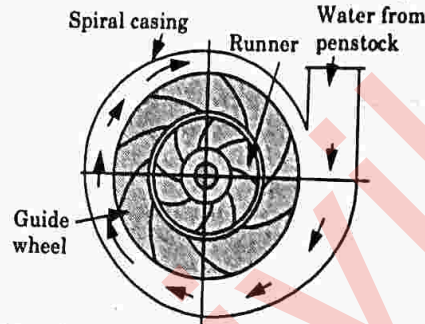

Fig. 5.13.1. Main parts of a radial flow reaction turbine.
2. In a Francis turbine fluid enters from penstock to a spiral casing which completely surrounds the runners as shown in (Fig. 5.13.1).